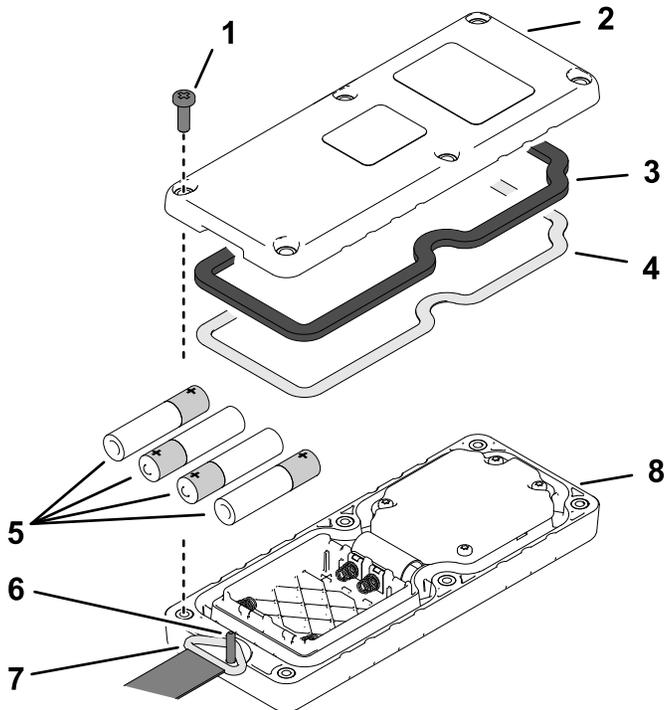

Figure 41
1. Remove the 6 screws securing the cover halves of the handheld remote together, and remove the back cover (Figure 41).
4. Ensure that the steel gasket and rubber seal are seated in the channel in the cover half and align the back cover to the front cover (Figure 41).
5. Align the lanyard ring over the lanyard pin (Figure 41).
6. Assemble the back cover to the and front cover with 6 screws (Figure 41).